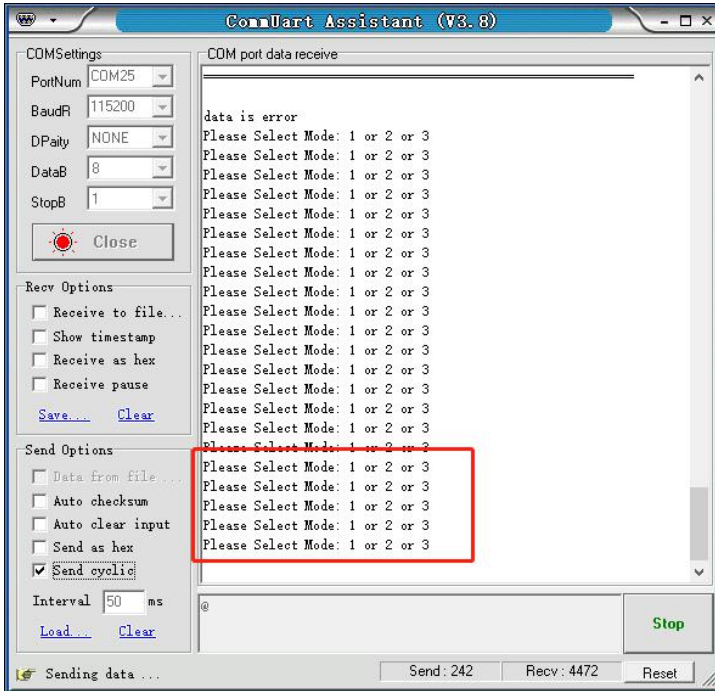

Figure 3.14 Information after restarting the device
- 2) Restart sensor; Use the magnet to restart the device and receive the information shown in Figure 3.14;